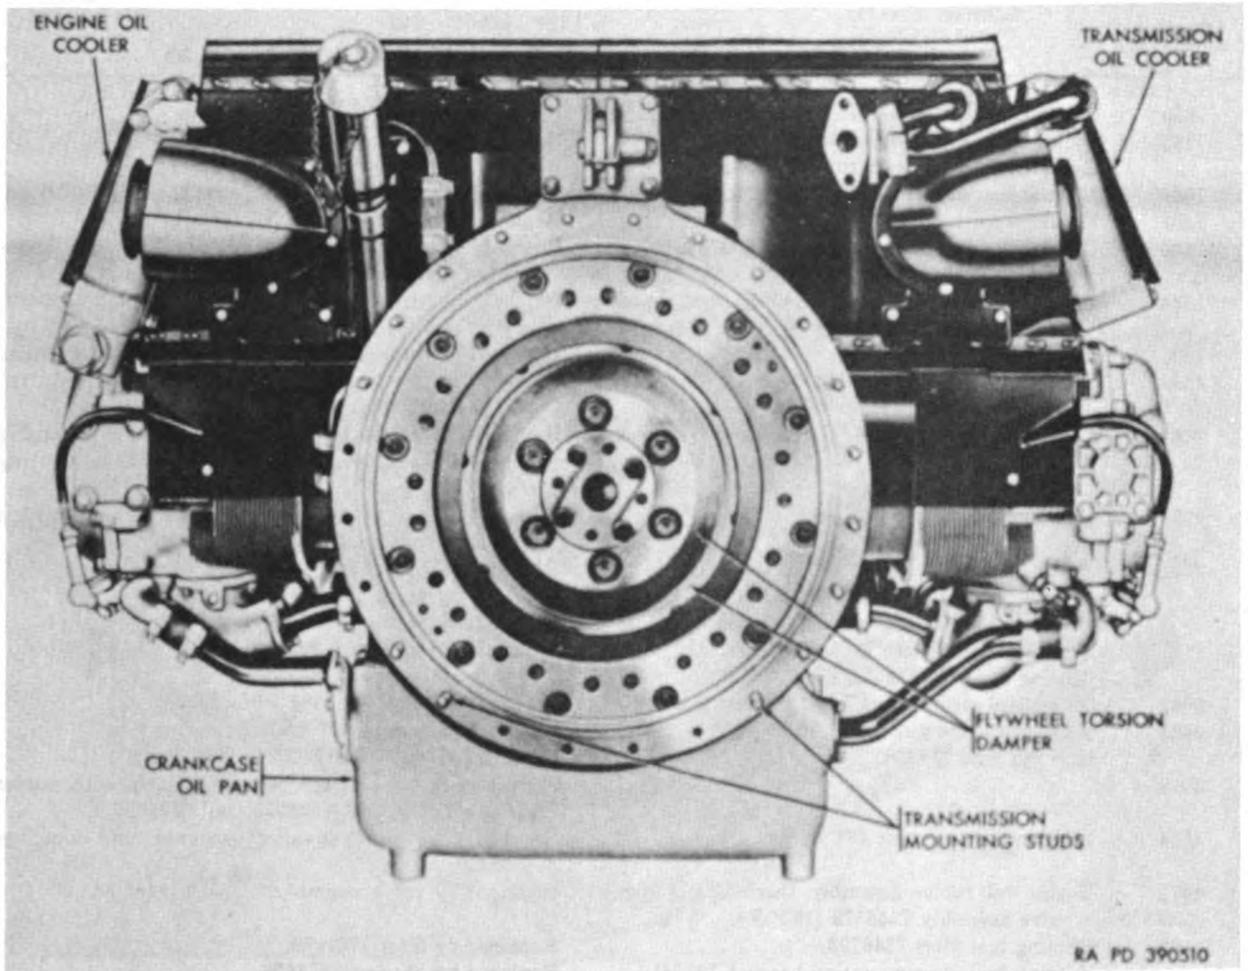

Figure 6. Model AOSI-895-5M engine--rear view.
*g.* The engine is lubricated by a force feed system. A combination scavenger and pressure oil pump and a separate accessory case scavenger oil pump supply oil to the lubrication system. The combination pump is mounted on the lower side of the crankcase inside the oil pan. The scavenger pump of this combination unit transfers oil from the flywheel end of the crankcase oil pan (fig. 6) to the pressure pump reservoir. The separate scavenger pump transfers oil from the accessory case oil sump (fig. 1) to the pressure pump reservoir. With the scav-
enger pumps constantly transferring oil from both ends of the engine, the pressure pump is assured an adequate supply of oil at all times regardless of the operating angle of the engine. In normal operation the oil passes from the pressure pump through passages in the crankcase and accessory case to the external oil coolers (fig. 6) and returns to the engine through the oil control housing and oil filter (fig. 3). The oil flow (fig. 19) is controlled by five valves. A fuel injector oil pressure regulator valve, an oil pressure control valve, an oil filter bypass valve, and an oil cooler bypass valve are all located in the oil control housing. The fifth
c. *Flywheels.* Model AOSI-895-5M engines incorporate a torsion damper assembly (fig. 6) in the flywheel. This item is omitted on model AOSI-895-5 engines.